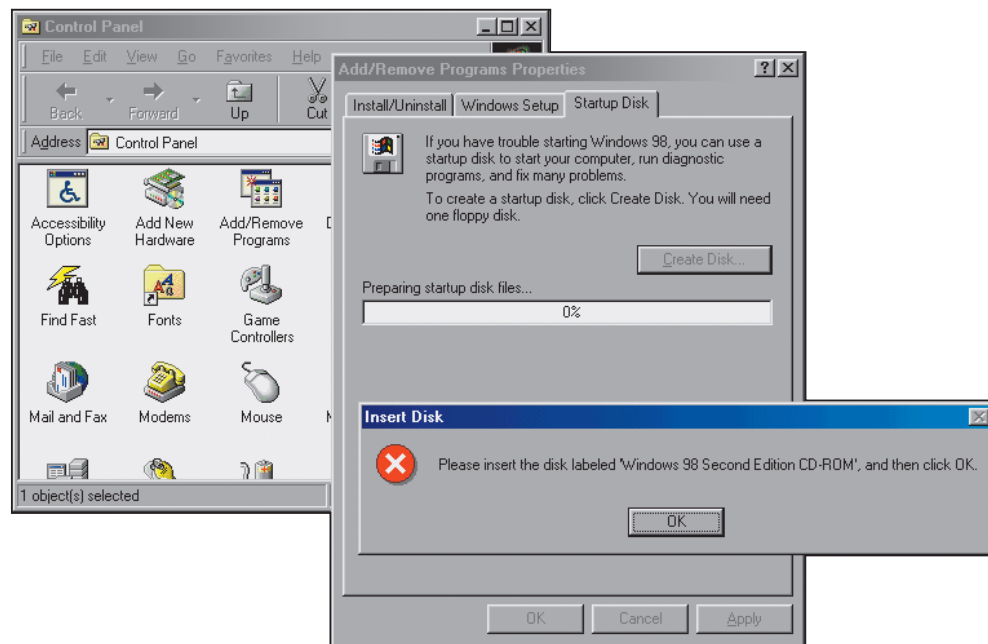

Figure 2-20 Windows might use the Windows CD to create a startup disk
3. Click the **Startup Disk** tab, and then click the **Create Disk** button (see Figure 2-20).